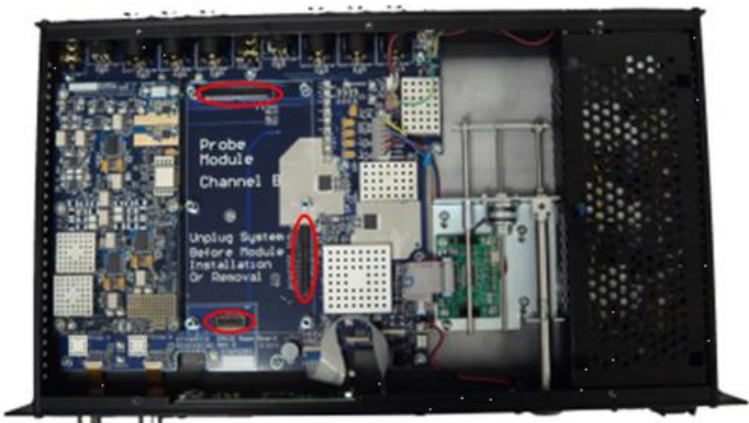

Figure 21
3. Insert the new plugin module aligning with the sockets as shown in Figure 21. Gently apply force evenly to the front connector (Figure 22), then the side connector, and finally the rear connector.